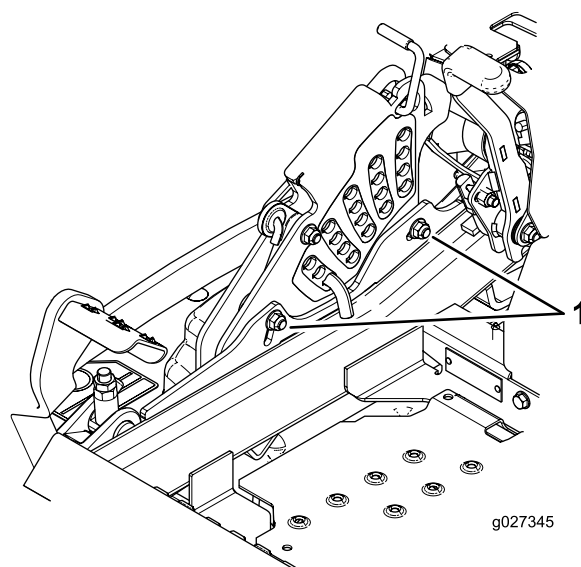

Figure 107
11. To adjust the single-point system, loosen the 2 bolts at the bottom of the height-of-cut plate (Figure 107).
13. Tighten the 2 bolts at the bottom of the height-of-cut plate (Figure 107).